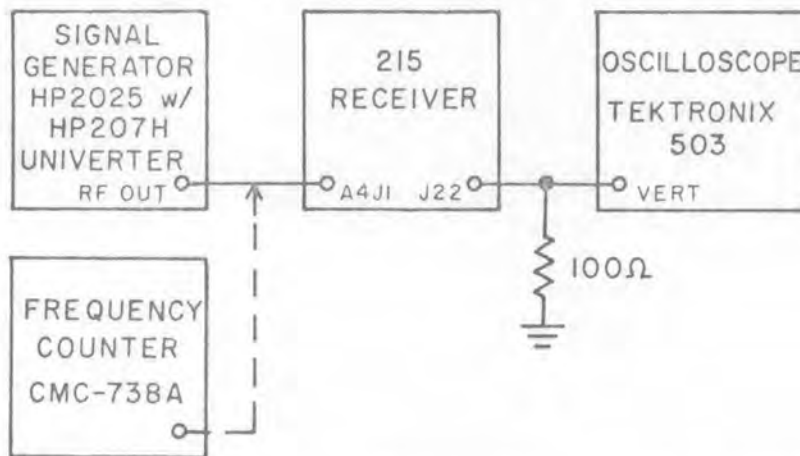

Figure 4-28. Equipment Connections, IF BW, AM/FM Select Alignment
- (1) Interconnect the equipment as shown in Figure 4-28.